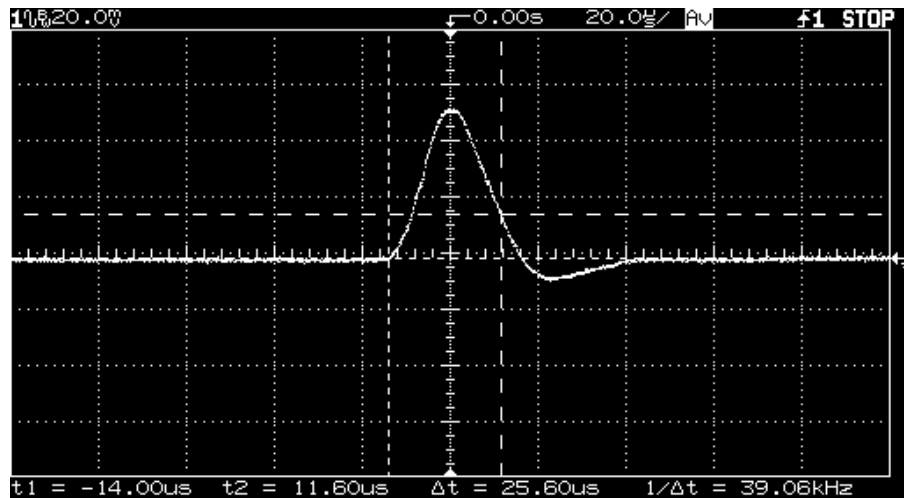

Figure 3-2. Transient Response Time
- 5 Adjust the the oscilloscope to display transients as shown in Figure 3-2. Note that the pulse width (t_2-t_1) of the transients at 15 mV from the base line is no more than 50 μ sec for the output.